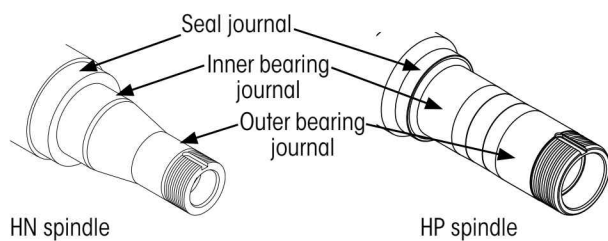

Figure 8: Spindle seal & bearing journals
2. **Inspect** machined spindle journals (Figure 8) for nicks, scratches, burrs or marks. If needed, use crocus cloth or emery cloth to repair any damaged areas.
1. Taking care not to damage the seal, **gently slide** the hub onto spindle until the seal is against the spindle seal journal (Figure 8).